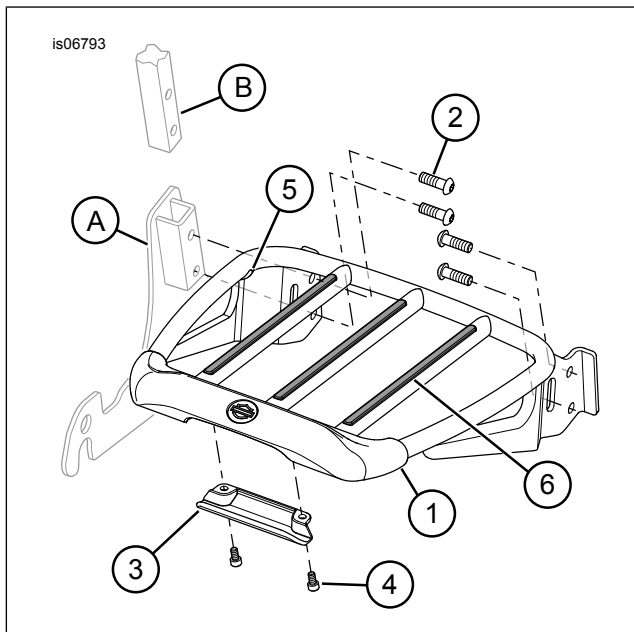

Figure 2. Service Parts: Air Foil Two-Up Luggage Rack
See Figure 2 and Table 1.
5. Remove and discard four sissy bar screws (4) that secure the sissy bar to sideplates.
6. See Figure 2. Position luggage rack (1) between the sideplates.
7. Apply Loctite 271 - Red to **new** TORX screws (2) and insert screws through holes in luggage rack, sideplate and sissy bar. Tighten screws to 16.3 N·m (12 ft-lbs).
1. See Figure 2. Remove and discard four button head TORX screws (2) that attach sissy bar to sideplates.
2. Position luggage rack (1) between the sideplates.